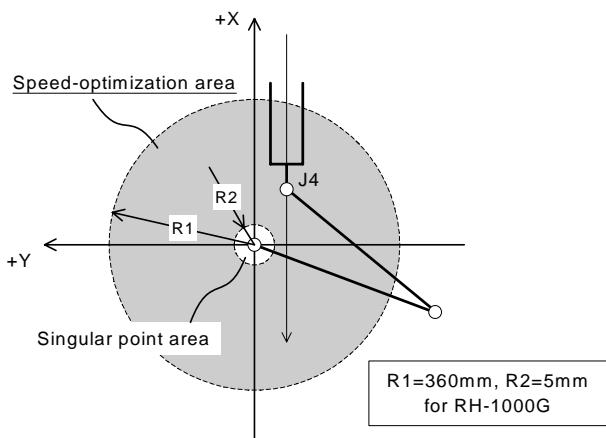

Fig.4-21:Speed-optimization area and singular point area.
(2) This instruction functions only for XYZ interpolation. It does not function for JOINT interpolation and CIRCULAR interpolation. Also, it does not function for linear interpolation by which the J4 axis does not pass through the speed adjustment area and the singular point as shown in Page 228 "Fig. 4-21 Speed-optimization area and singular point area.".
- (4) If the END instruction or a program reset operation is executed, the status of the speed adjustment function returns to the initial state immediately after the power is turned on.
- (5) When the speed adjustment function is enabled, error 2804 will be generated if the XYZ interpolation by which the J4 axis passes through a singular point area shown in Fig. 4-21 is executed, and the operation is then suspended.
- (6) Even if this instruction is described in a program, it is ignored on models other than the applicable models.
- (7) Even if the speed adjustment function is enabled, an exceeded speed error may be generated if a path is connected by enabling the CNT instruction near the origin point, or a XYZ interpolation operation that drastically changes the posture is executed. In such a case, move the position where a path is connected away from the origin point, or adjust the speed by using the OVRD instruction.
- (8) In the case of a XYZ interpolation that operates slightly in the horizontal direction but operates significantly in the vertical direction, the operation speed may degrade drastically when the speed adjustment function is enabled vs. when it is disabled. In such a case, disable the speed adjustment function, or operate by using a JOINT interpolation (MOV instruction).